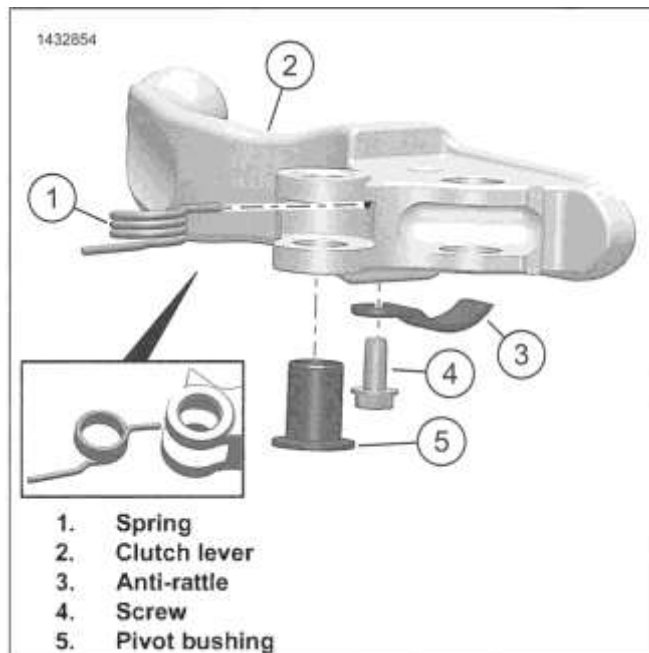

Figure 3-90. Clutch Components
1. See Figure 3-90. Disassemble clutch lever.
- a. Push out pivot bushing (5).
- b. Remove spring (1).
- c. Remove screw (4).
- d. Remove anti-rattle (3).
1. See Figure 3-90. Assemble clutch lever.
- a. Install anti-rattle (3).
- b. Install screw (4). Tighten.